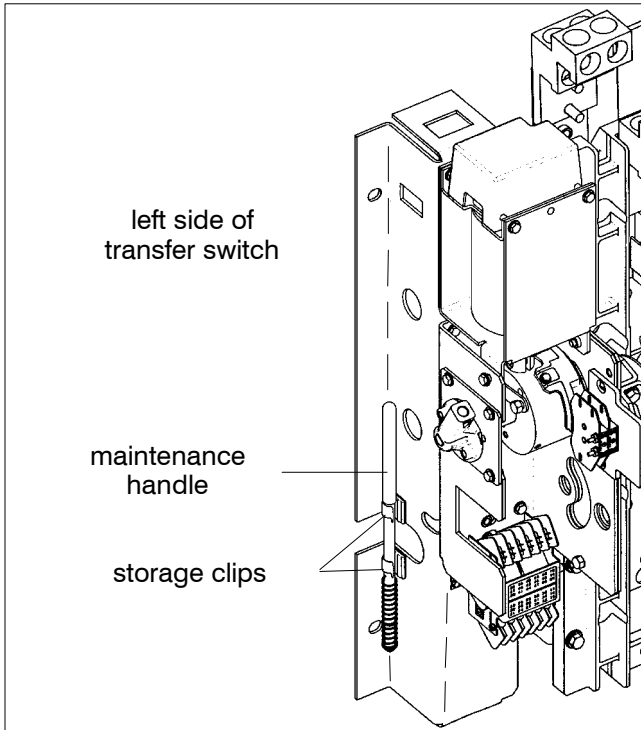

Figure 1-6. Location of maintenance handle on 260 – 1200 amp. J & H-design transfer switches.
*260 through 1200 amp. J & H-design* Fig. 1-6, 1-7.